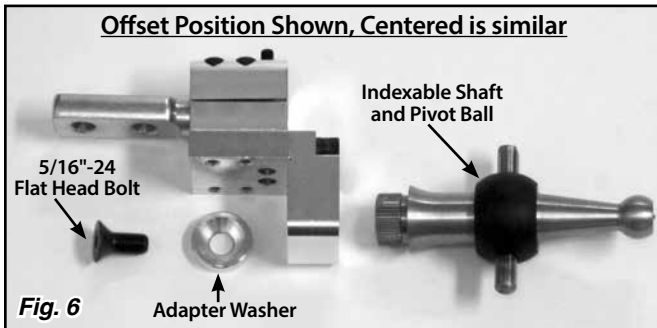

Fig. 6
**Step 3:** Remove the 5/16"-24 flat head bolt from the AxiShift assembly using a 3/16" Allen wrench. Remove the adapter washer, and slide the indexable base off of the indexable shaft. **Fig. 6**